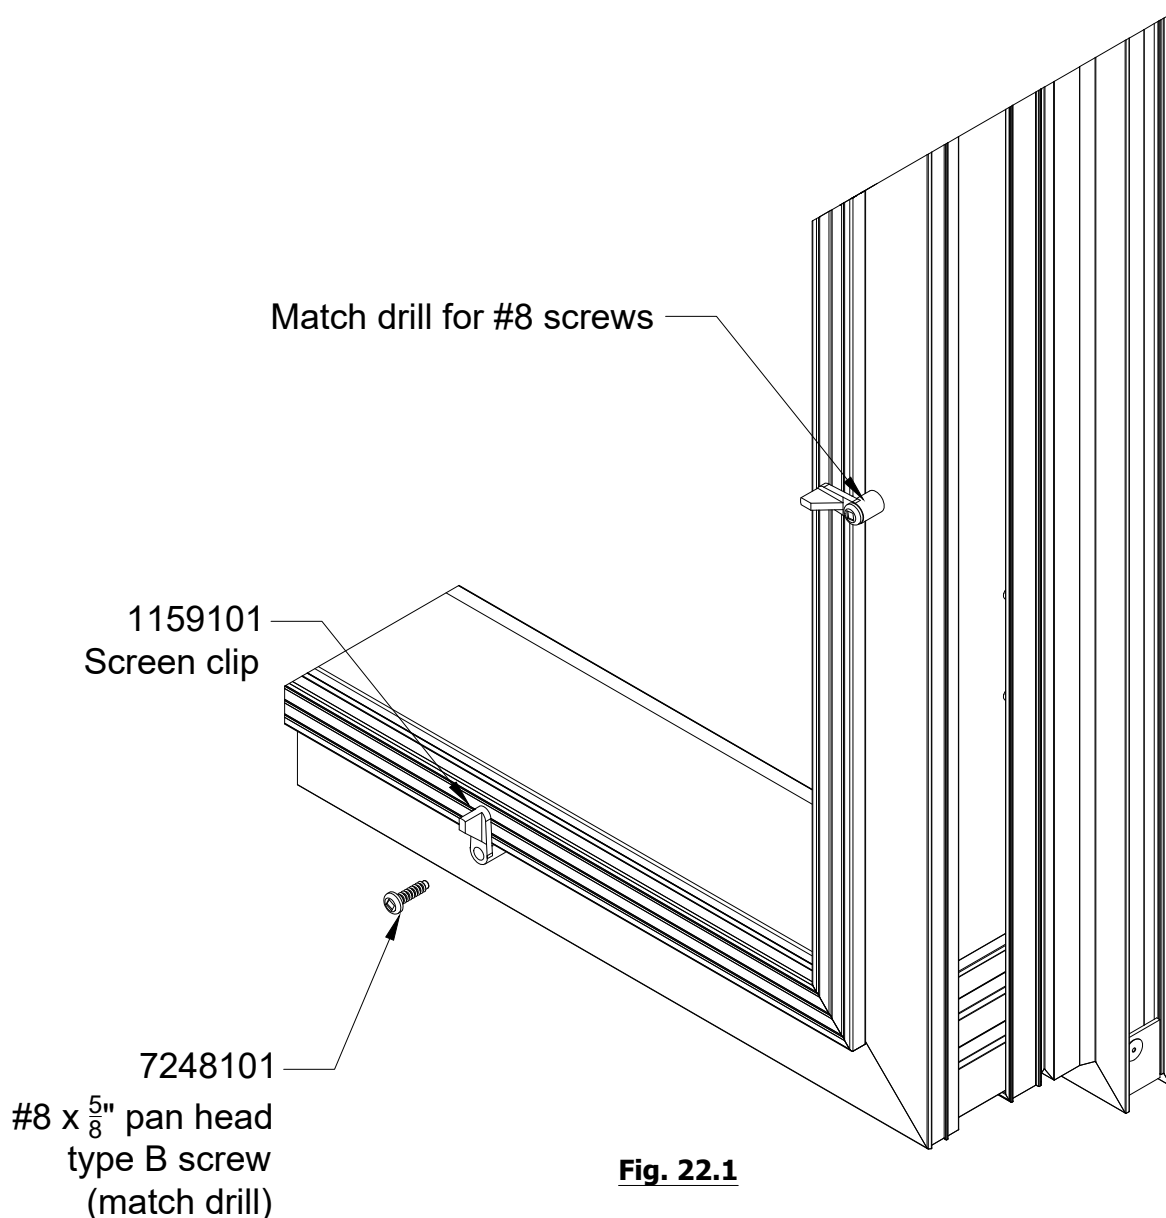

Fig. 22.1
1. Drill holes in window frames using correct size drill for the #8 screw being used. See **Fig. 22.1**